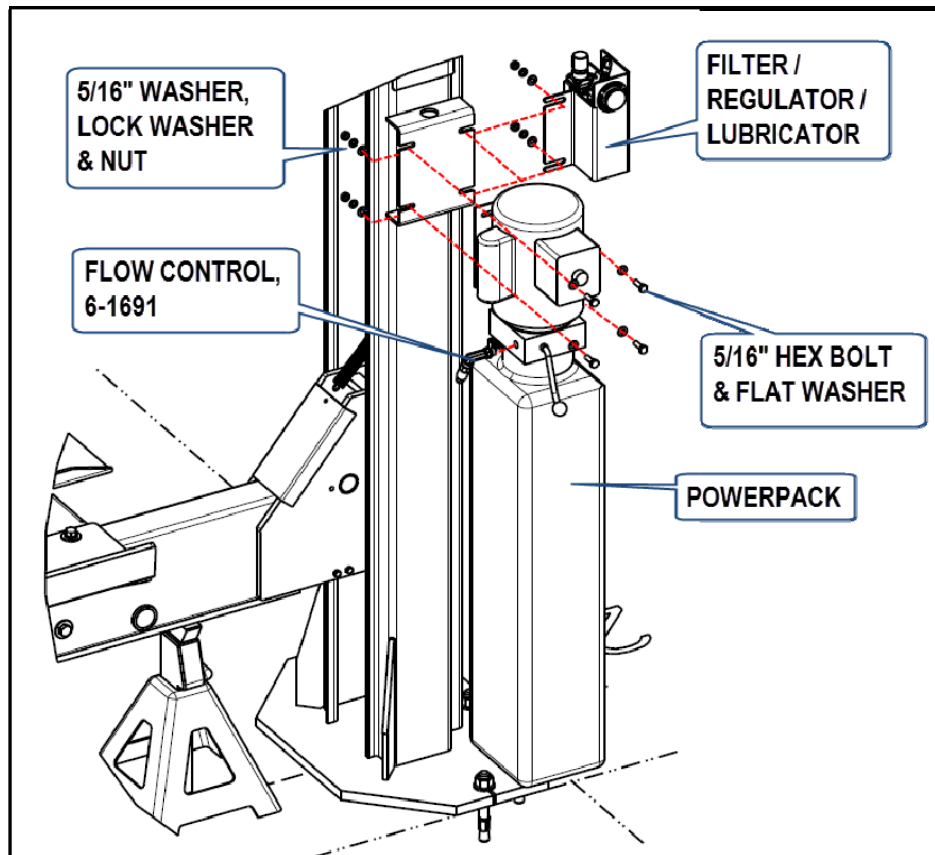

Figure 18. Powerpack Install
2. Install Flow Control #6-1691 into powerpack. See **Figure 18**.